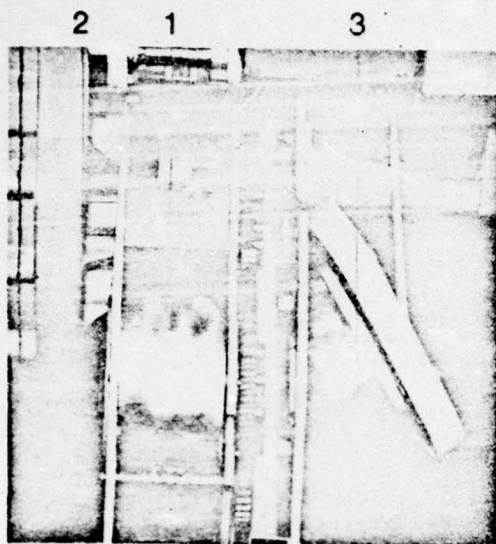

Figure 3.8
14. Spacer (1, Figure 3.8) to be taken out after removing three countersunk screws M6 x 16 DIN 7991 (2, Figure 3.8).
23. Cable roller holder taken up (3, Figure 3.8) and installed with spacer (1, Figure 3.8).